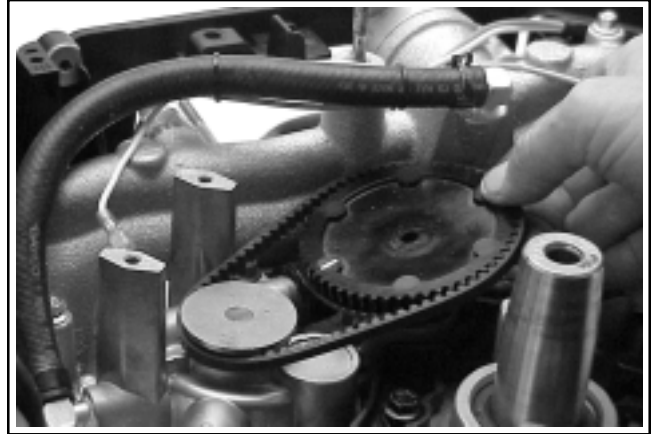

Figure 9-42. Removing Cam Pulley and Belt.
2. Lift the pulley off the camshaft and work the belt off the coolant pump pulley. See Figure 9-42.